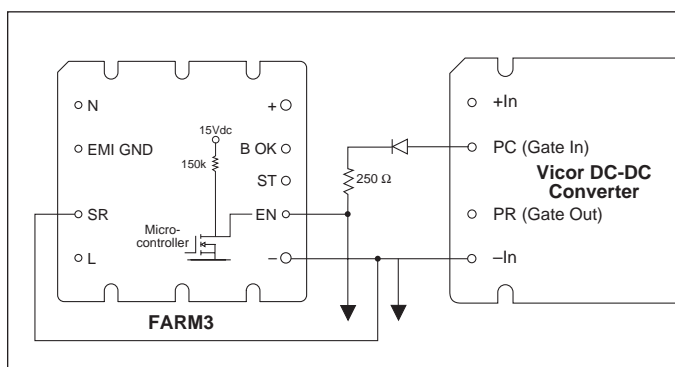

Figure 11—Enable (EN) function
Enable (EN) Pin. The Enable pin must be connected to the PC or Gate-In pin of all converter modules to disable the converters during power-up. Otherwise, the converters would attempt to start while the hold-up capacitors are being charged through the current limiting thermistor, preventing the bus voltage from reaching the thermistor bypass threshold, thus disabling the power supply. The Enable output (the drain of an N channel MOSFET) is internally pulled up to 15 V through a 150 k Ω resistor. (see Figure 11)